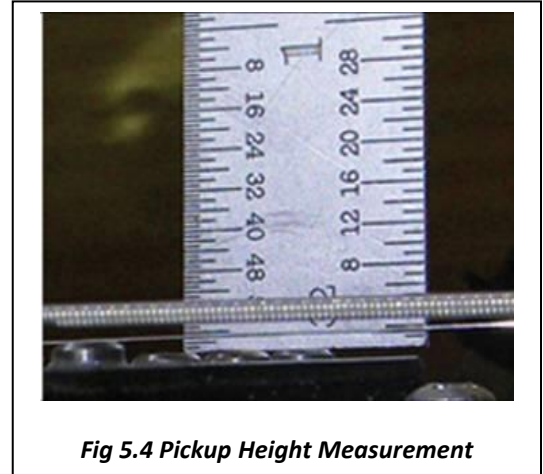

Fig 5.4 Pickup Height Measurement
5.4 Pickup Height (Figure 5.4)..... - 4 -
### 5.4 Pickup Height (Figure 5.4)